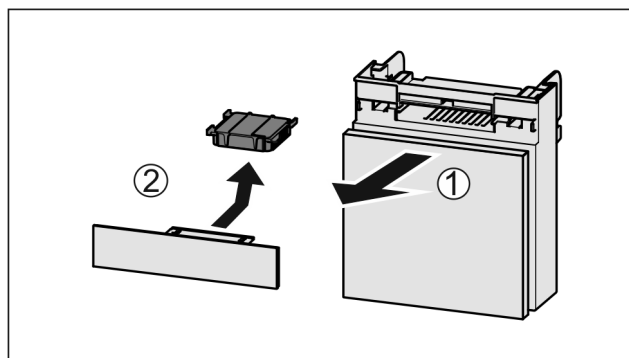

Fig. 209
- ▶ Pull out the compartment Fig. 209 (1).
- ▶ Remove the carbon filter Fig. 209 (2).